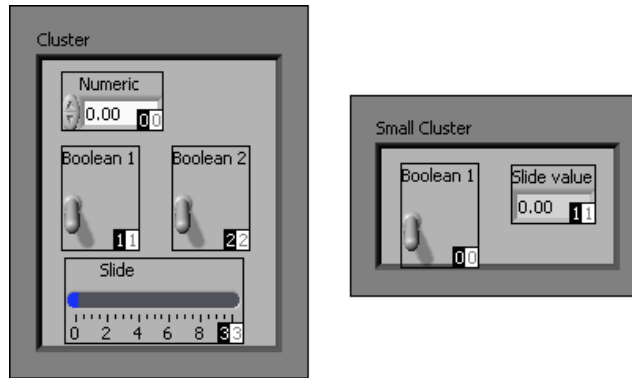

Figure 6.8
- b. Confirm the cluster orders (Figure 6.8).